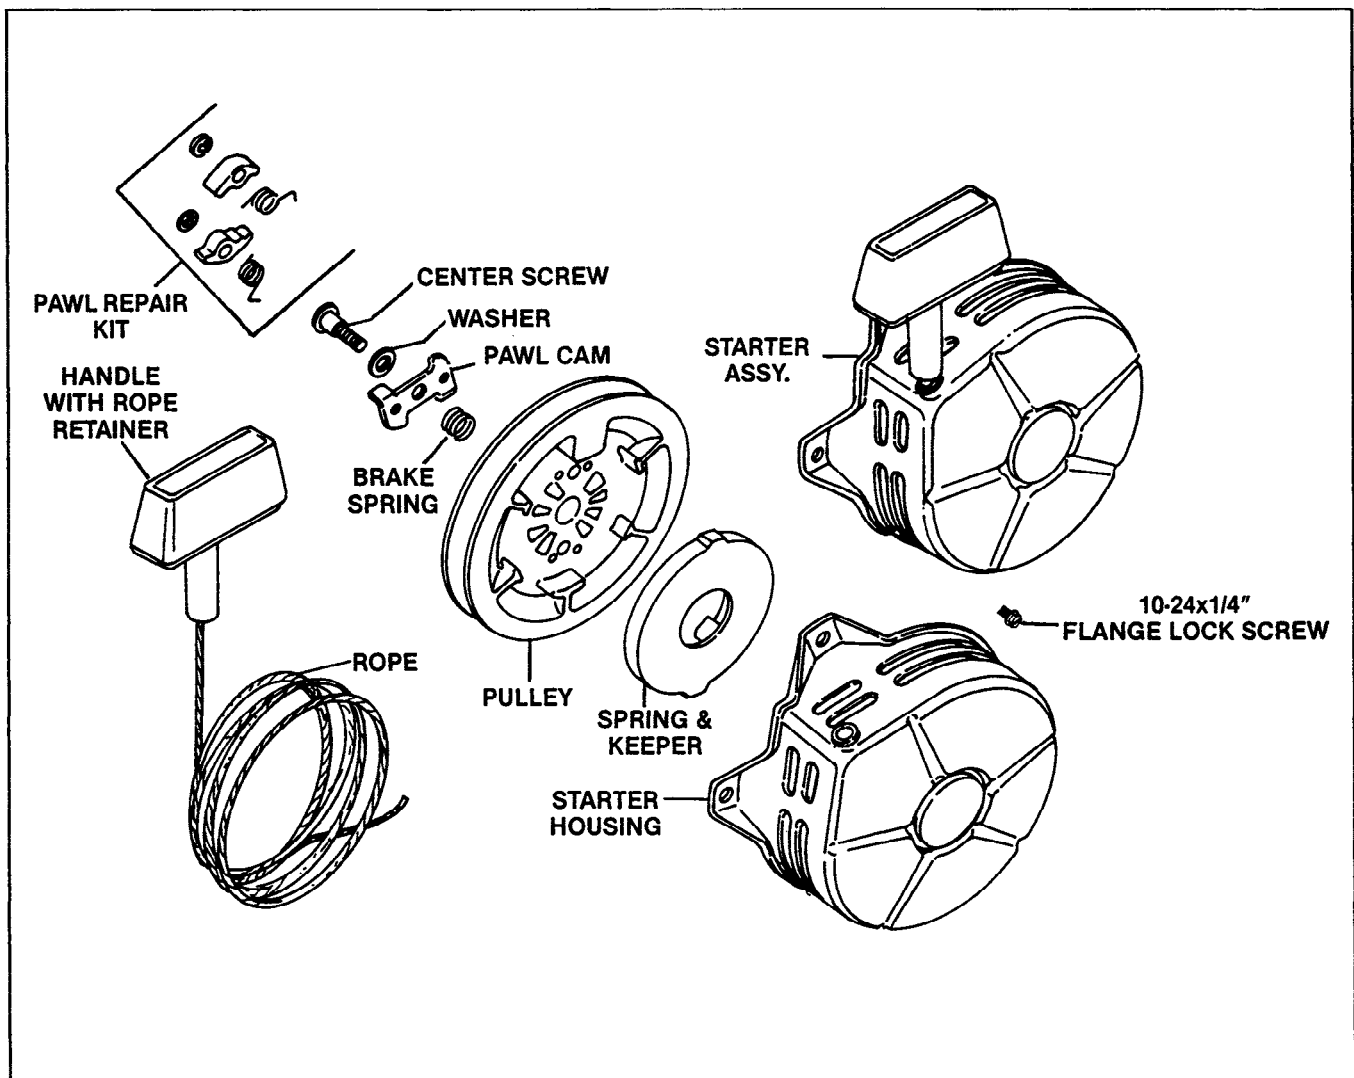

Figure 7-3. Exploded View.
2. Replace all worn or damaged components. Use only genuine Kohler replacement parts specified in the Parts Manual. All components shown in Figure 7-3 are available as service parts. Do not use nonstandard parts.
3. Lubricate the brake spring **sparingly** with grease. Install the brake spring into the recess in center shaft of starter housing. Refer to Figure 7-3. (Make sure the threads in center shaft remain clean, dry, and free of grease or oil.)